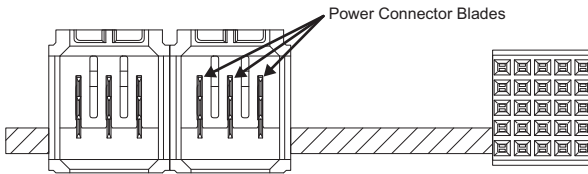

Figure 5 Power Connector Blade Inspection
2. Inspect the **Power Connector Blades** on the edge of the board (**Figure 5**) to ensure that they are not bent or damaged.